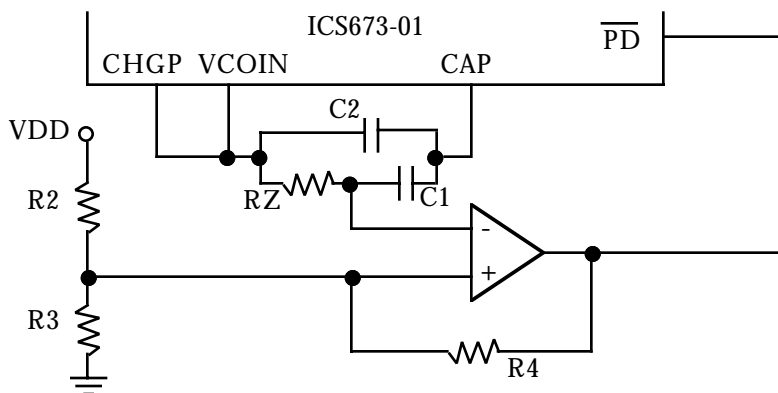

Figure 5. Using an External Comparator to Reset the VCO.
3. A comparator circuit may be used to monitor the loop filter voltage, as shown in Figure 5. This circuit will dump the charge off the loop filter by asserting $\overline{\text{PD}}$ if the VCO begins to run too fast, and the PLL can recover. A good choice for this comparator is the National Semiconductor LMC7211BIM5X. It is low